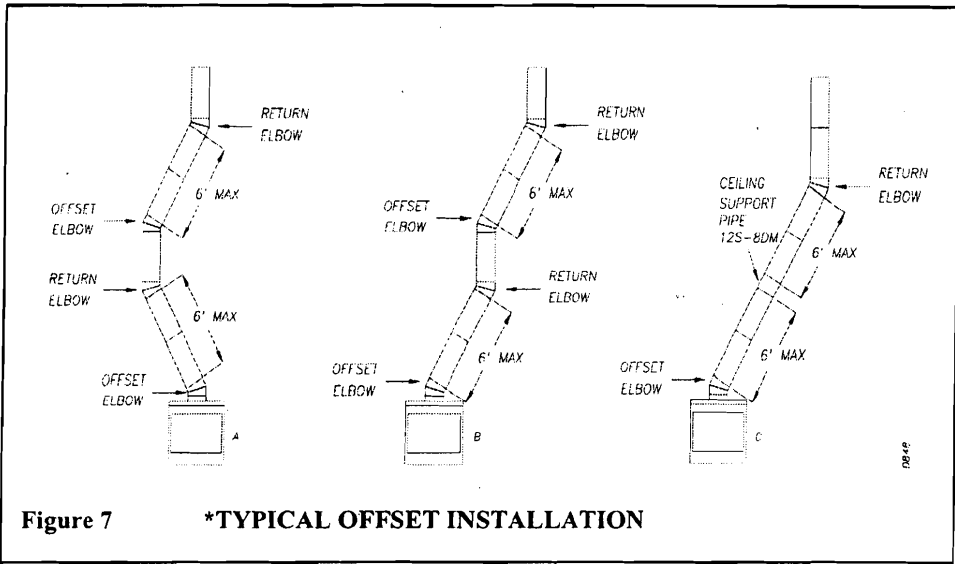

Figure 7 *TYPICAL OFFSET INSTALLATION
1. To achieve desired offset, you may install combinations of 12", 18", 24", 36" and 48" length of double wall pipe (SEE SINGLE OFFSET CHART AND FIGURE 7).
3. Maximum length of pipe between supports (return elbow or 12S-8DM) is 6' of angle run. Maximum of two (2) 6' angle run sections per chimney system (see figure 7).